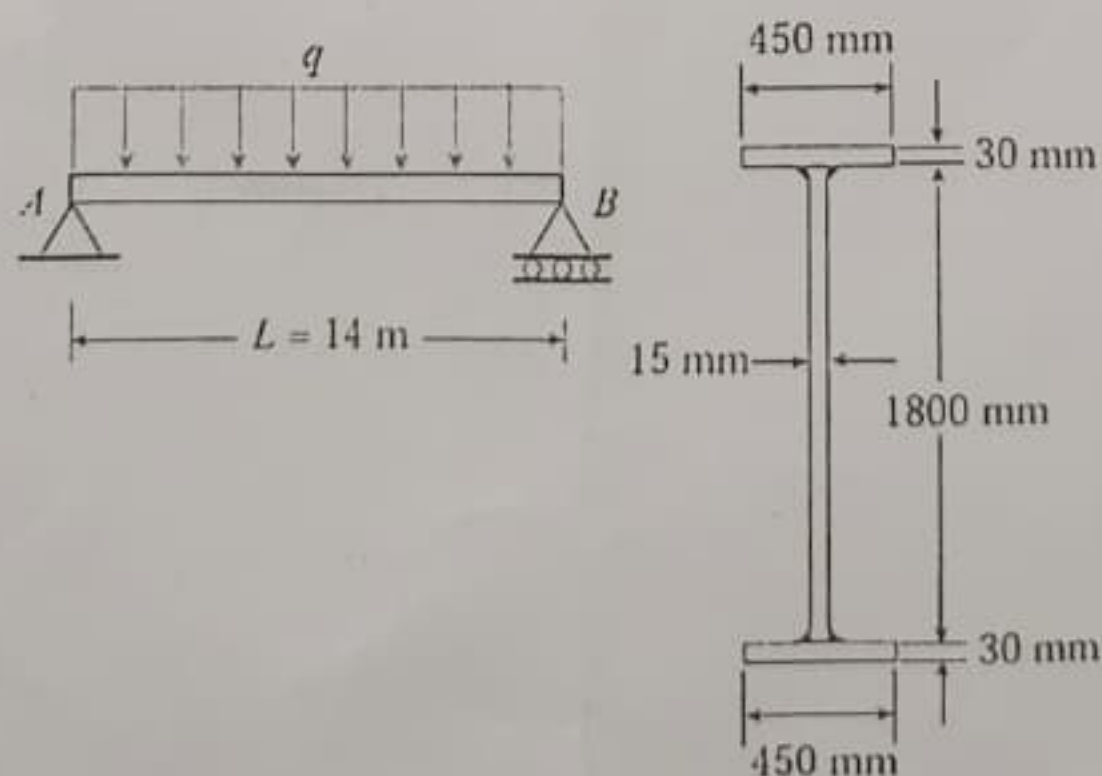

Figure 4
4. A bridge girder AB on a simple span of length $L = 14$ m supports a uniform load of intensity q that includes the weight of the girder (see figure 4). The girder is constructed of three plates welded to form the cross section shown. Determine the maximum permissible load q based upon (a) an allowable bending stress $\sigma_{\text{allow}} = 110$ MPa, and (b) an allowable shear stress $\tau_{\text{allow}} = 50$ MPa.